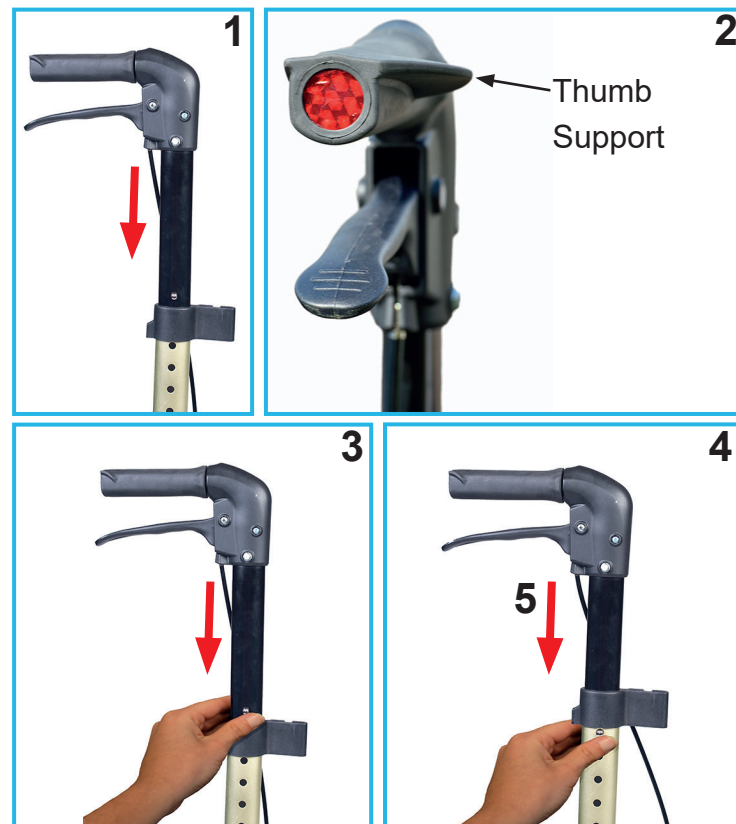

Figure 6: Attaching the Handles
1. Refer to Figure 2 and Figure 6. Slot the RHS handle tube into the RHS tube of the main frame.